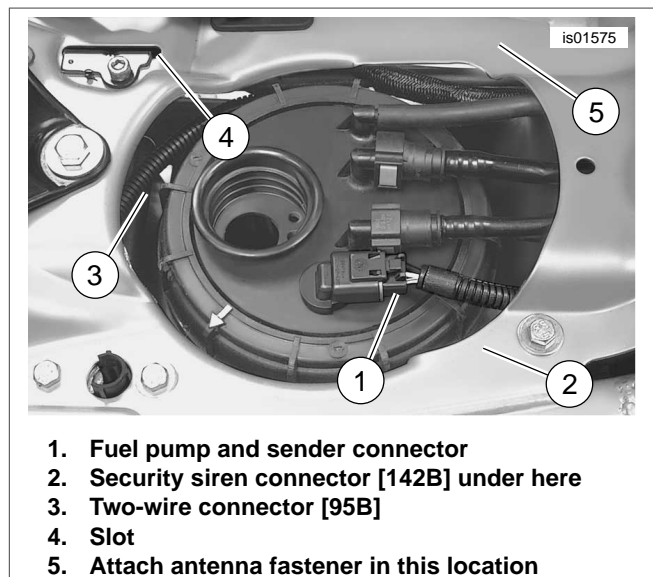
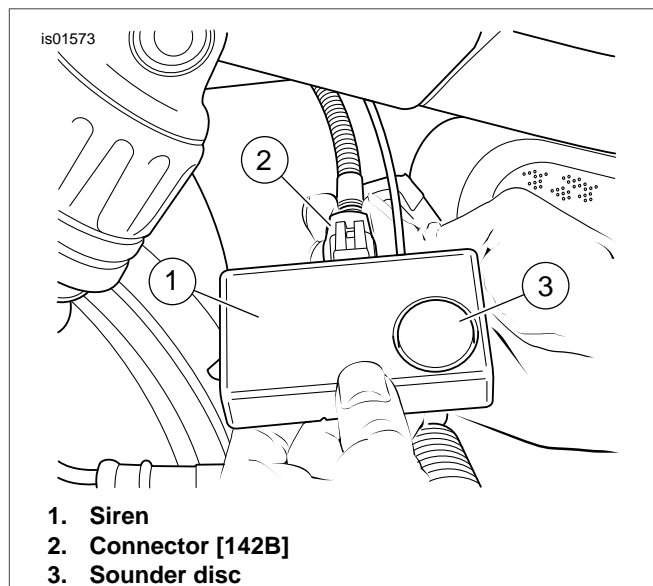
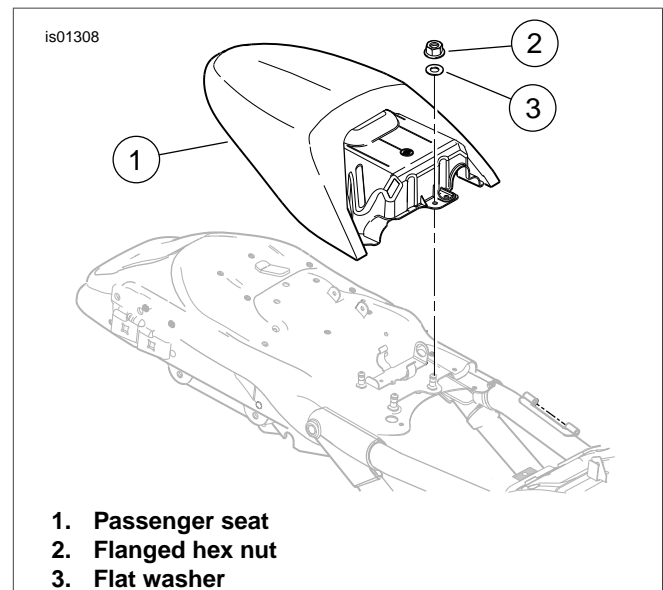

Figure 3. Locate Connector [142B] (2002-2006 VRSC Models) (Shown with Fuel Cap and Filler Boot Removed)
Figure 4. Install Siren Connector (2002-2006 VRSC Models)
Figure 6. Remove Passenger Seat (2006-2007 VRSCR)
See Figure 3. The security siren connector is a three-wire connector. Do not confuse this connector with the two-wire connector (3) tied to the harness (except on California models).
5. Locate the security siren connector (2) at the end of the harness lead that wraps around the top of the fuel tank. Disconnect the fuel pump and sender connector (1) to free the security siren connector. The protective cap and cable strap on the security siren connector can be discarded.
6. See Figure 4. Route the siren harness lead out from under the right side of the fender. Get the siren (1) from the kit. Insert connector [142B] (2) into the siren receptacle until the connector latches securely.
8. See Figure 3. Feed the siren pager antenna wire upwards through the slot (4) in the frame.
3. Locate the security siren connector (2) at the end of the harness lead that wraps around the top of the fuel tank. Disconnect the fuel pump and sender connector (1) to free the security siren connector. The protective cap and cable strap on the security siren connector can be discarded.
4. See Figure 6. Remove the flanged hex nut (2) and flat washer (3) that retain the passenger seat (1). Remove seat.
10. Refer to Figure 3. Clean the area on the frame (5) forward of the slot (4), along the space to the left of the fuel filler boot with a 50-50 mixture of isopropyl alcohol and distilled water. Allow to dry completely.